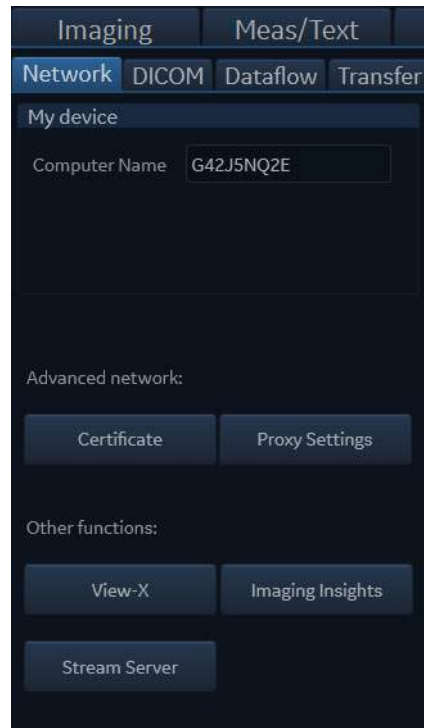

Figure 14-9. View-X under Network configuration
3. Select **View-X** (Figure 14-9).